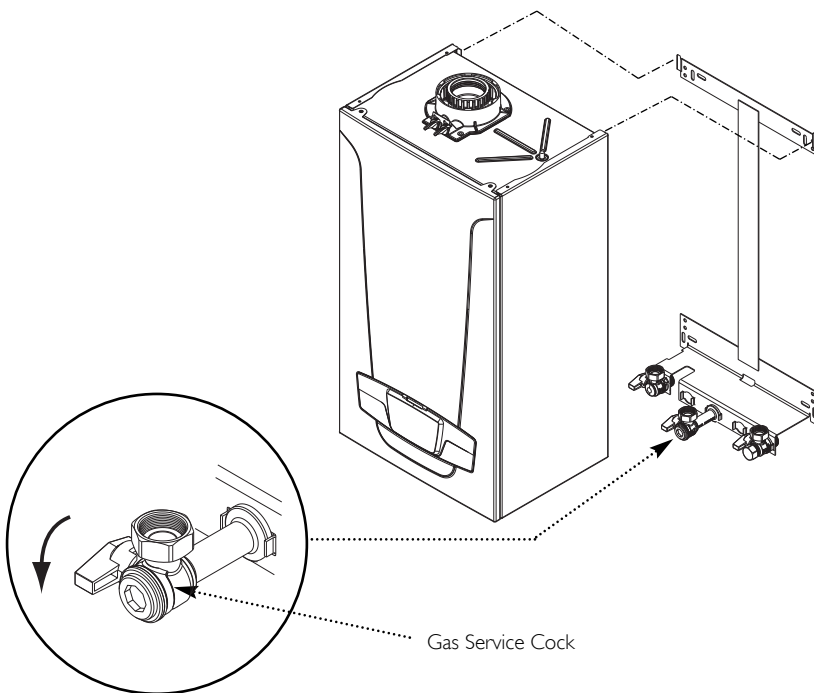

Fig. 10
1. The gas installation should be in accordance with the relevant standards. In GB this is BS 6891 (NG) or BS 5482 Pt. 1 (LPG). In IE this is the current edition of I.S. 813 "Domestic Gas Installations".
2. The connection to the appliance is a 22mm copper tail located at the rear of the gas service cock (Fig. 10).